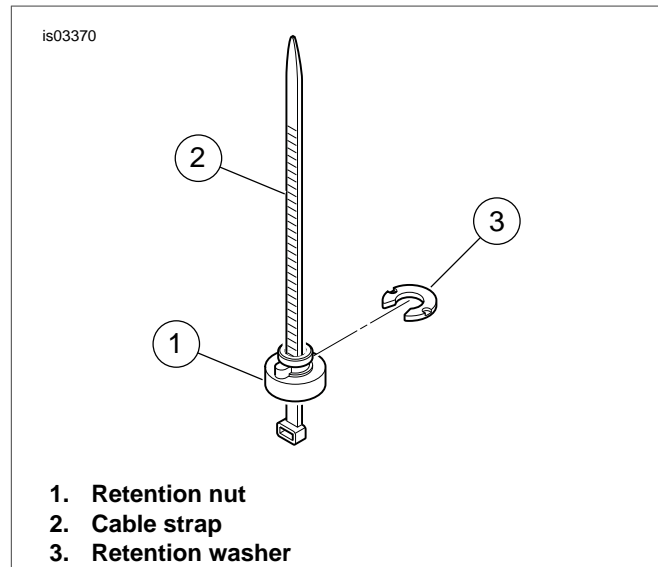
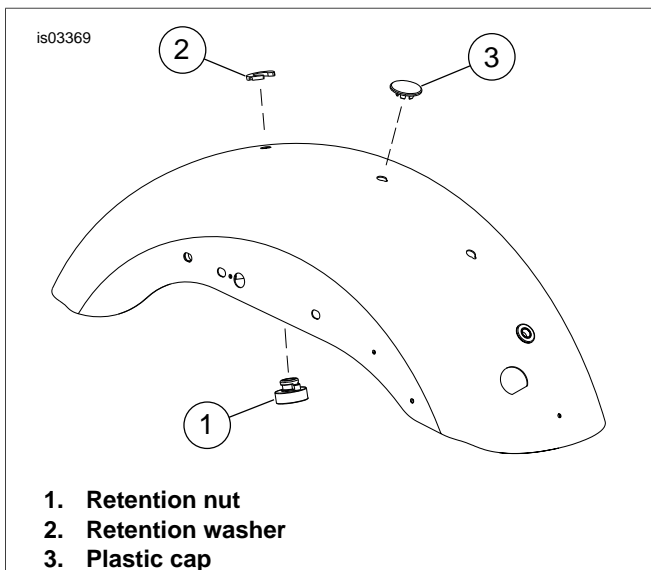

Figure 4. Retention Nut Installation
Figure 3. Retention Nut and Plastic Cap (2-Up Seats)
5. See Figure 3. Install retention nut (1) and washer (2) into rearward fender hole.
- a. See Figure 4. Place retention nut (1) over cable strap (2) so wide end of nut rests on eye of cable strap.
- d. With rib on retention nut seated into notch in fender hole, slide retention washer (3) into place from rear. This will lock retention nut in place.
6. See Figure 3. Install plastic cap in middle fender hole.